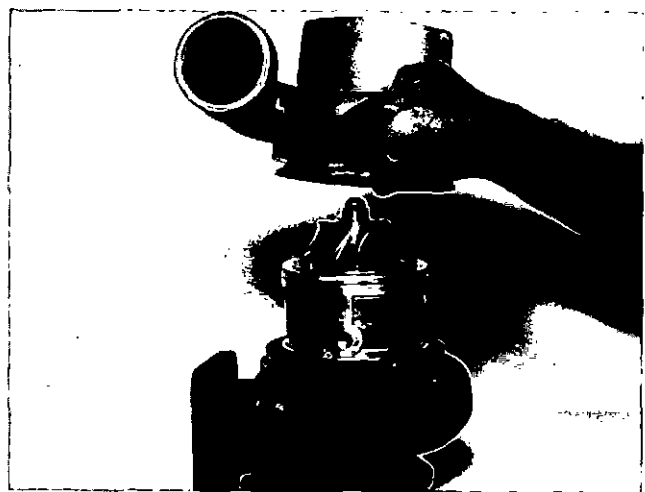

Fig. 4-3, (T465055). Remove the compressor housing
4. Lift off the compressor housing (16), Fig. 4-3.